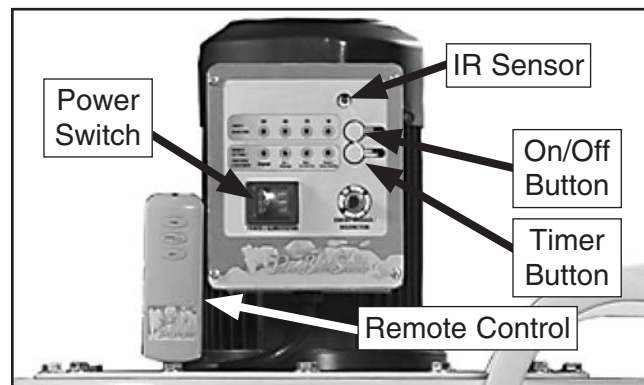

Figure 30. G0703P controls.
4. Toggle the power switch (see **Figure 30**) to ON (I). The power indicator light will illuminate.